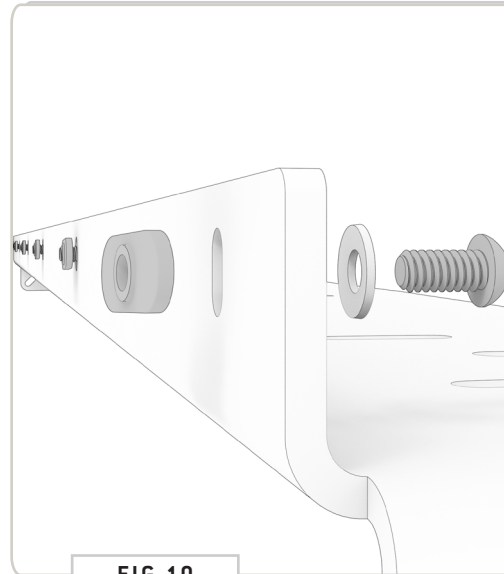

FIG 10
**4.1 Crossbar Fairing Bracket:** Stack a 1/4-20" x 0.5" Button Head Screw and 1/4" Belleville Lock Washer as shown in FIG 10 and insert into the six available front holes of the Fairing Light Bar Tray. Loosely assemble using a T-Nut. You'll only want to screw the T-Nuts on a little in order to provide clearance for the next step.